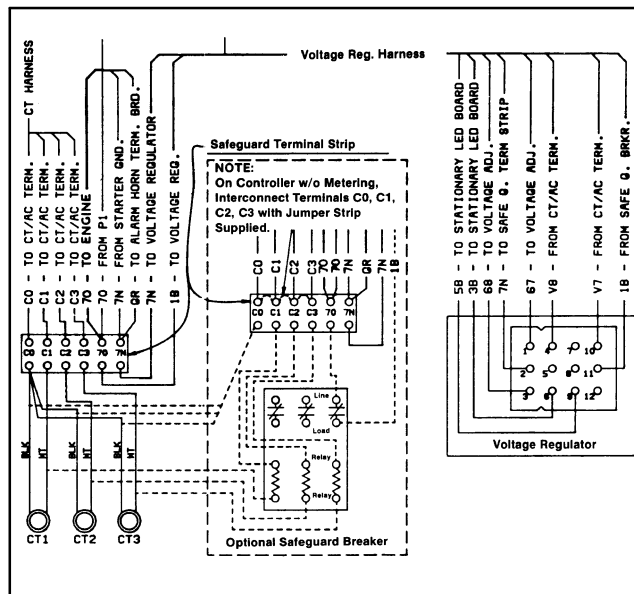

Figure 4 Wiring Diagram
10. Connect safeguard circuit breaker as follows. See Figure 4 for wiring diagram.